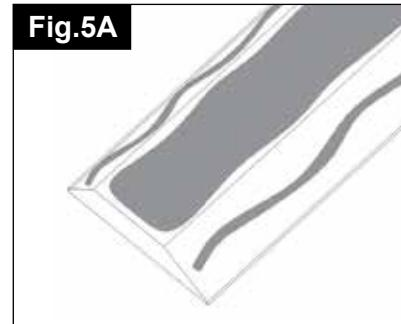

Fig.5A
- B Apply a heavy continuous bead of silicone sealant along the flat back area of the molding and a 1/4in continuous bead to both beveled edges of the molding. (Fig. 5A)